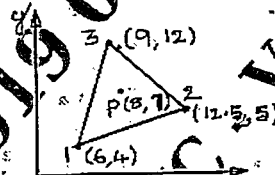

Fig. Q3 (b)
b. Compute the shape functions N_1, N_2 and N_3 at point $P(8, 7)$ for the constant strain triangular element shown in Fig. Q3 (b). (06 Marks)